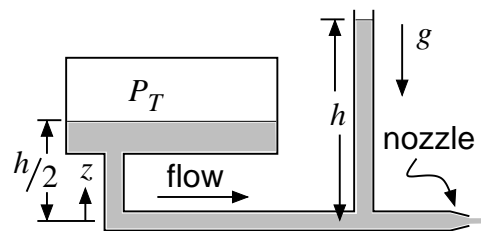

Figure 3: Tank & pipe system.
3. (10 pts) Liquid of density  $\rho$  is in a large diameter pressurized tank and flows steadily and inviscidly into a small-diameter pipe of cross-sectional area  $A_P$  (Fig. 3). The free surface in the tank is at a height  $h/2$  above a reference plane. Static pressure within the pipe is indicated by a manometer having a reading  $h$ . The flow exits to atmosphere through a nozzle of area  $A_N$ , where  $A_N < A_P$ . Show that the flow velocity in the pipe can be expressed as